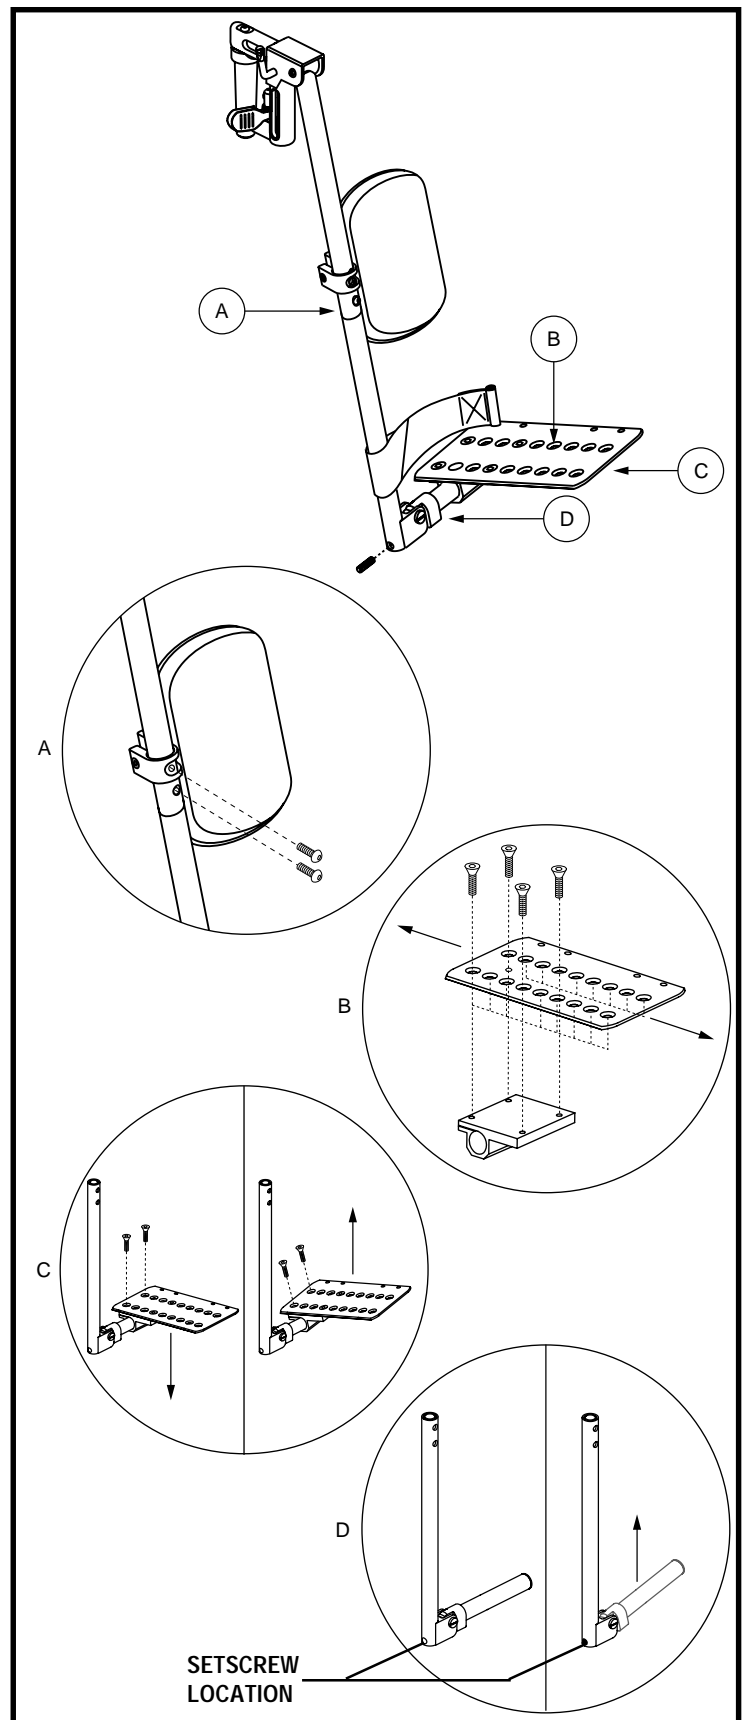

Figure 22. Multi-Axis Foot Plate
The multi-axis foot plate assembly can be installed on either a swing-away footrest or an elevating leg rest. The multi-axis foot plate has four adjustments: leg rest length (A), position (B), tilt (C), and angle (D). See figure 22.